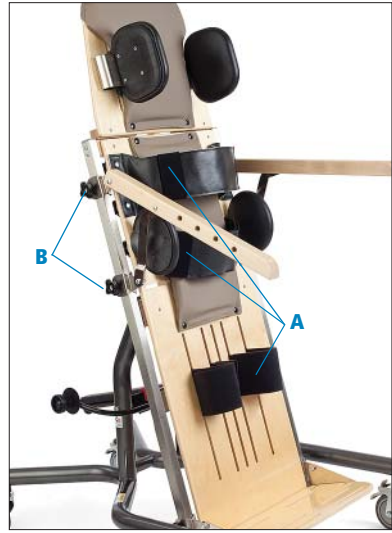

Figure 10a
To adjust height of hip and leg straps, pull back of strap away from hook-and-loop fabric at back of the mainboard, slide strap to the desired height, and secure hook-and-loop fabric (see Figure 10a).
To adjust height of armrest, loosen both knobs (B), slide armrest to desired position, and tighten knobs securely. To adjust angle of armrest, loosen the bottom knob only, lift or lower front of armrest to desired position, and tighten knob securely (see Figure 10a).